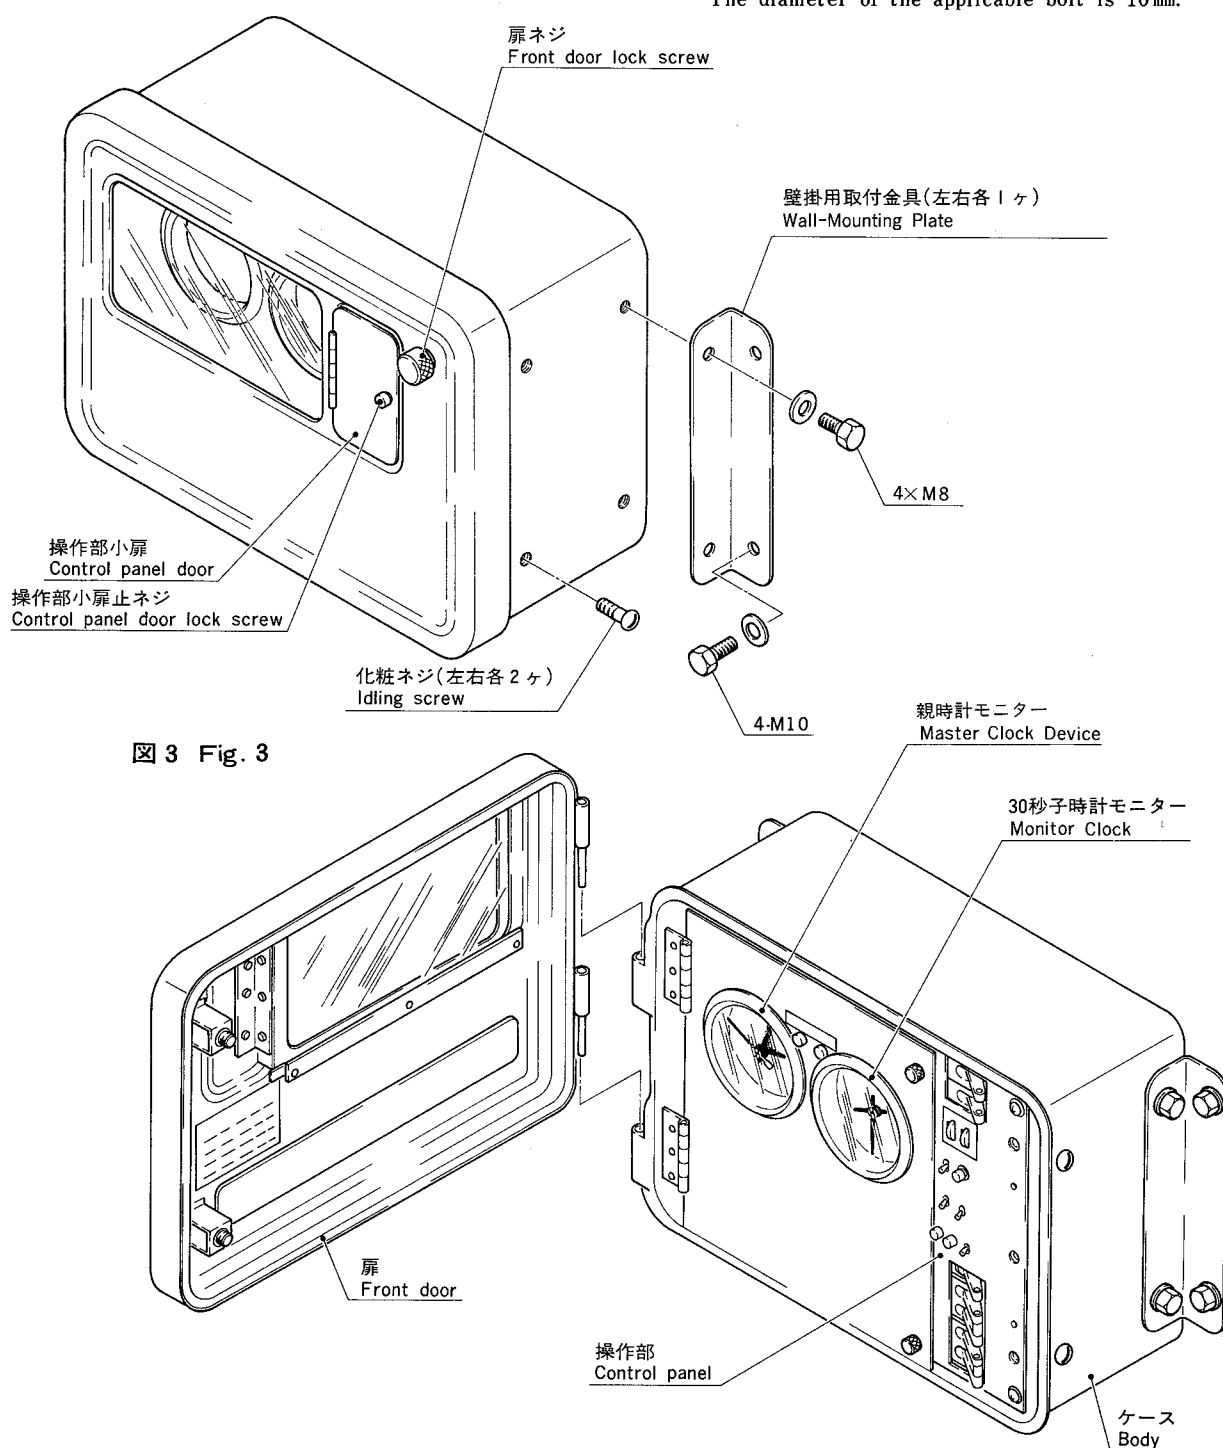

図3 Fig. 3
a. 壁掛型の場合 (図3 参照)
a. Wall-mounting type (see Fig. 3)
Mounting method is illustrated in Fig. 3